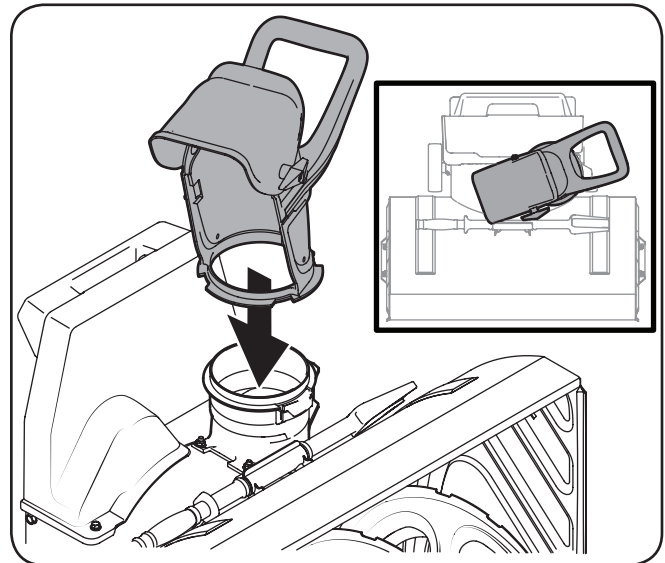

Figure 3-2
2. Install the discharge chute, packed loose in the carton, onto the snow thrower attachment, as shown in Figure 3-2.